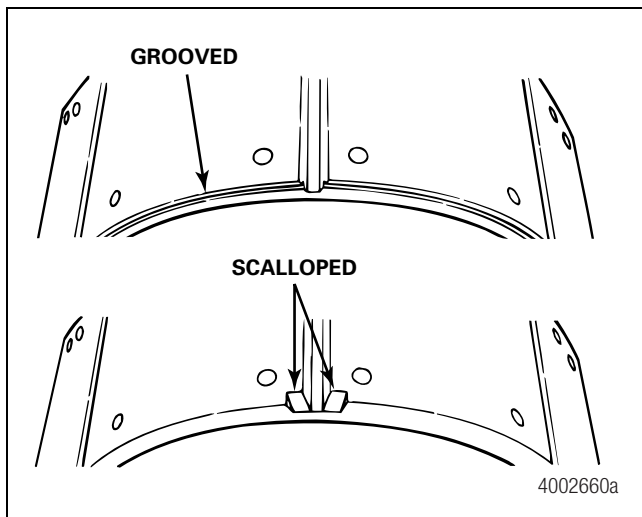

Figure 7.30
1. Some linings have a groove in the edge of the lining. Some linings are scalloped at the four inner corners. Figure 7.30. When linings are worn so that the groove or the scallops are not visible, replace the linings.